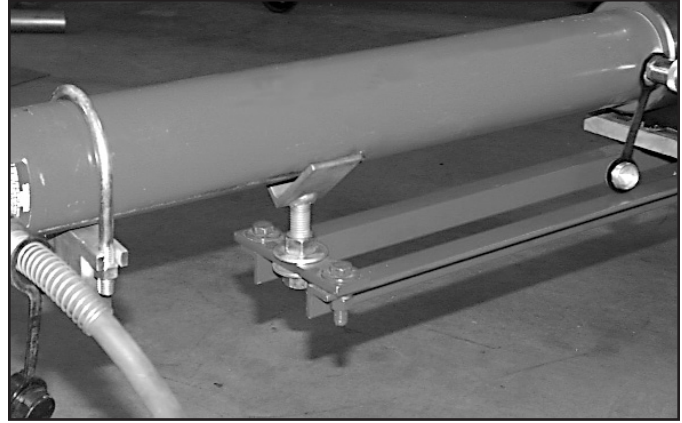

Fig. 5
7. Adjust the cylinder support "V" block until the cylinder is firmly supported and level. Figure 5.